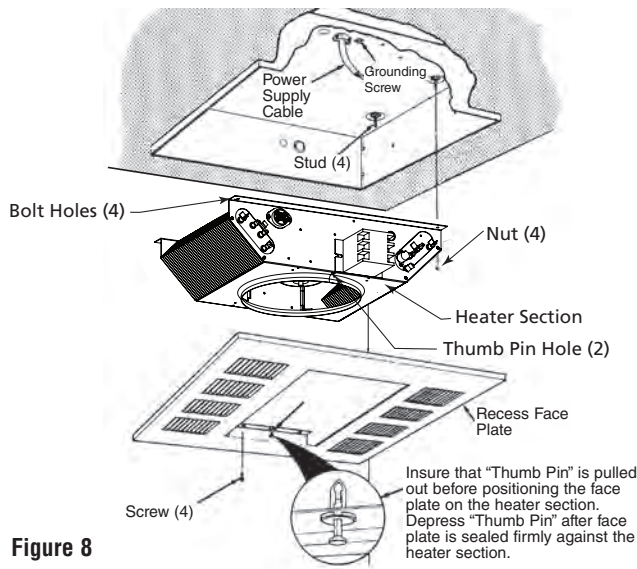

Figure 8
- Position the heater section over the studs in the recess mounting box (Figure 8).
13. Push the heater section onto the studs and securely tighten four nuts (supplied) on the studs to secure the heater section to the recess mounting box (Figure 8).
15. Remove the recess face plate (Figure 8) from the carton containing the Recess Mounting Enclosure, Type REA.
18. Install and securely tighten four screws (supplied) to secure the recess face plate to the heater section (Figure 8).